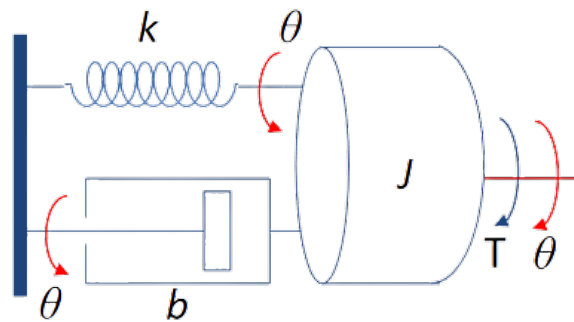

Figure 3(a) Schematic diagram of locked wheel
- a) Determine the governing equation that describes the correlation between the input torque T and the angular displacement θ of a driveline with a locked wheel, as shown in **Figure 3(a)**.